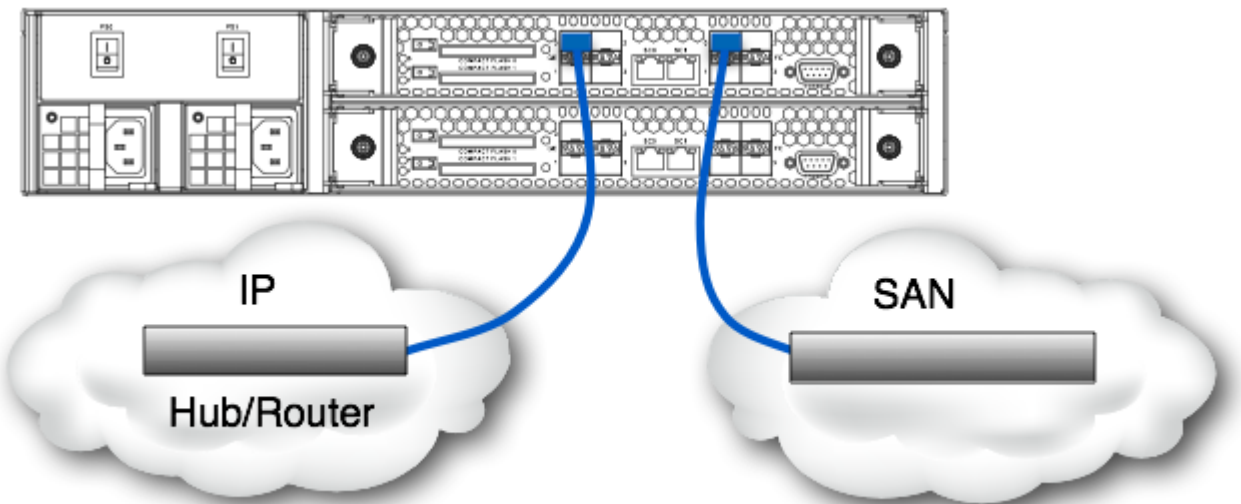

Figure 6-3 Connecting the ONStor Cougar 6000 Series NAS Gateway to the SAN
Step 2: With a multimode fiber optic cable (not provided), connect the Storage Processing (FP) module to a Fibre Channel device in the SAN or directly to Fibre channel storage devices, as shown in Figure 6-3.